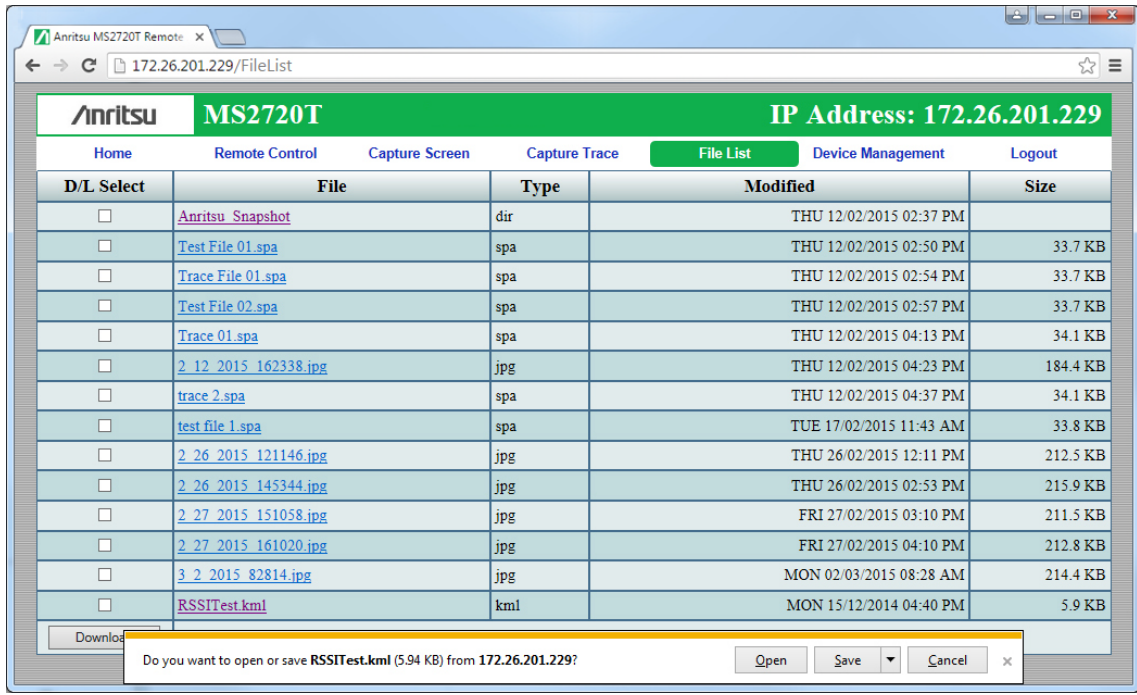

Figure 7-4. Web Remote Control Window - File List Tab
2. Click the File List tab and look for the .kml file you want to view in Google Earth. See Figure 7-4.